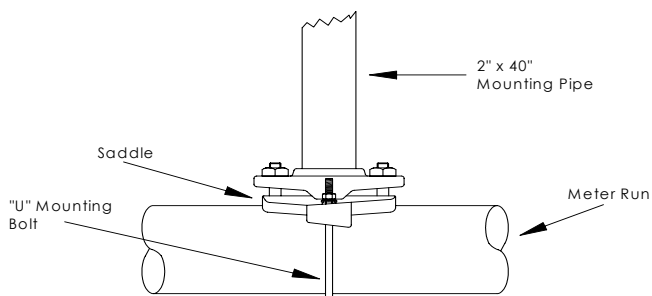

Figure 1 (Saddle Mount)
4. Install bracing for μ FLO (pipe saddle, direct mount, pipe driven in ground). Attach U-bolts to 2" pipe using silicone spray or Teflon tape to prevent galling. (See Figures 1 & 2)